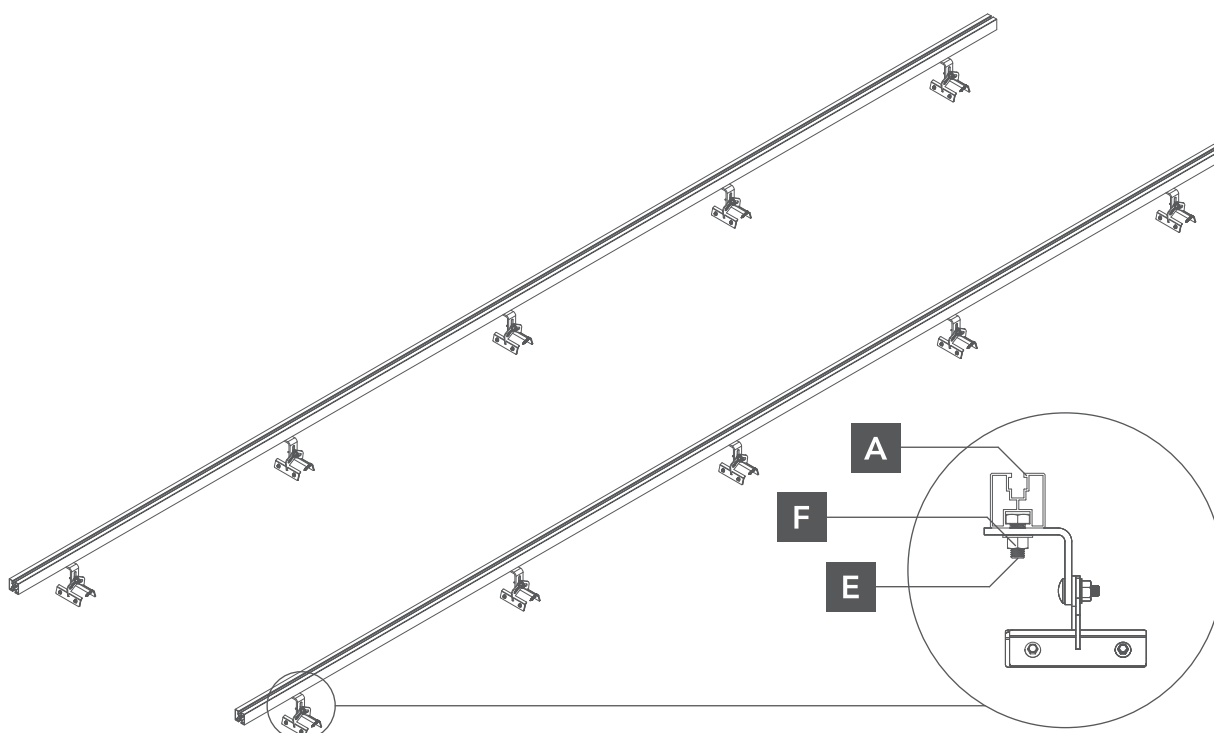

Fig. 6. fastening of the mounting rail to the mounting bracket
- 5** Next, insert a DIN 6923 M10x25 bolt through one end of the mounting rail, make it fit with the trapezoidal holder and fasten it with the DIN 6923 M10 nut (Fig. 6).